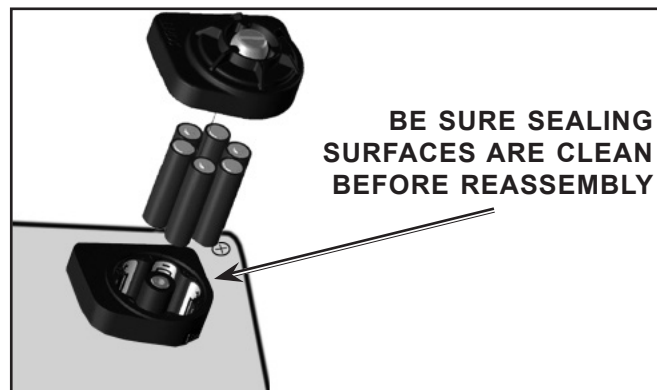

FIGURE 2
6. The battery cover must be installed so that it is water tight after replacement. Clean the sealing rib around battery compartment and sealing face of the cover, shown in FIGURE 2, by wiping with a clean damp cloth to remove any dirt or foreign matter which might prevent a proper seal. Check cover gasket for tears or cuts. If damage is found, remove unit from service and tag for repair by authorized personnel.